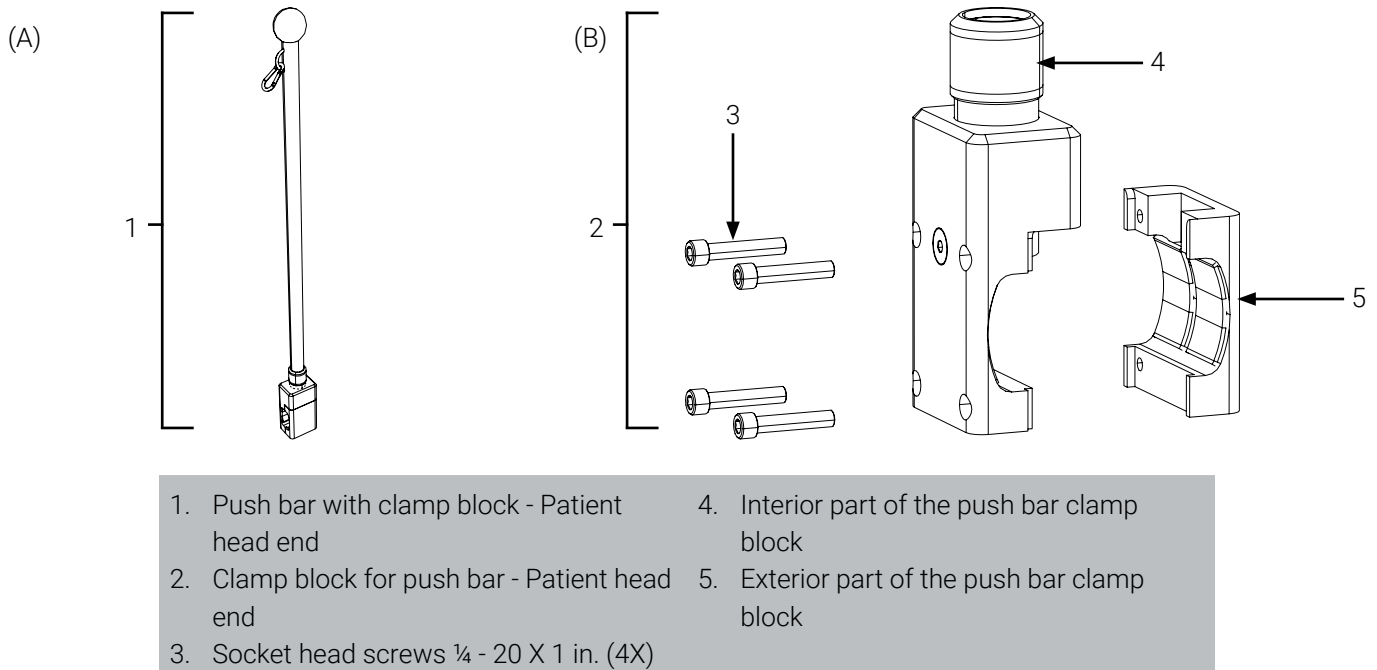

Figure 37: Push bar clamp block parts
1. Identify the push bar clamp block parts (Figure 37).